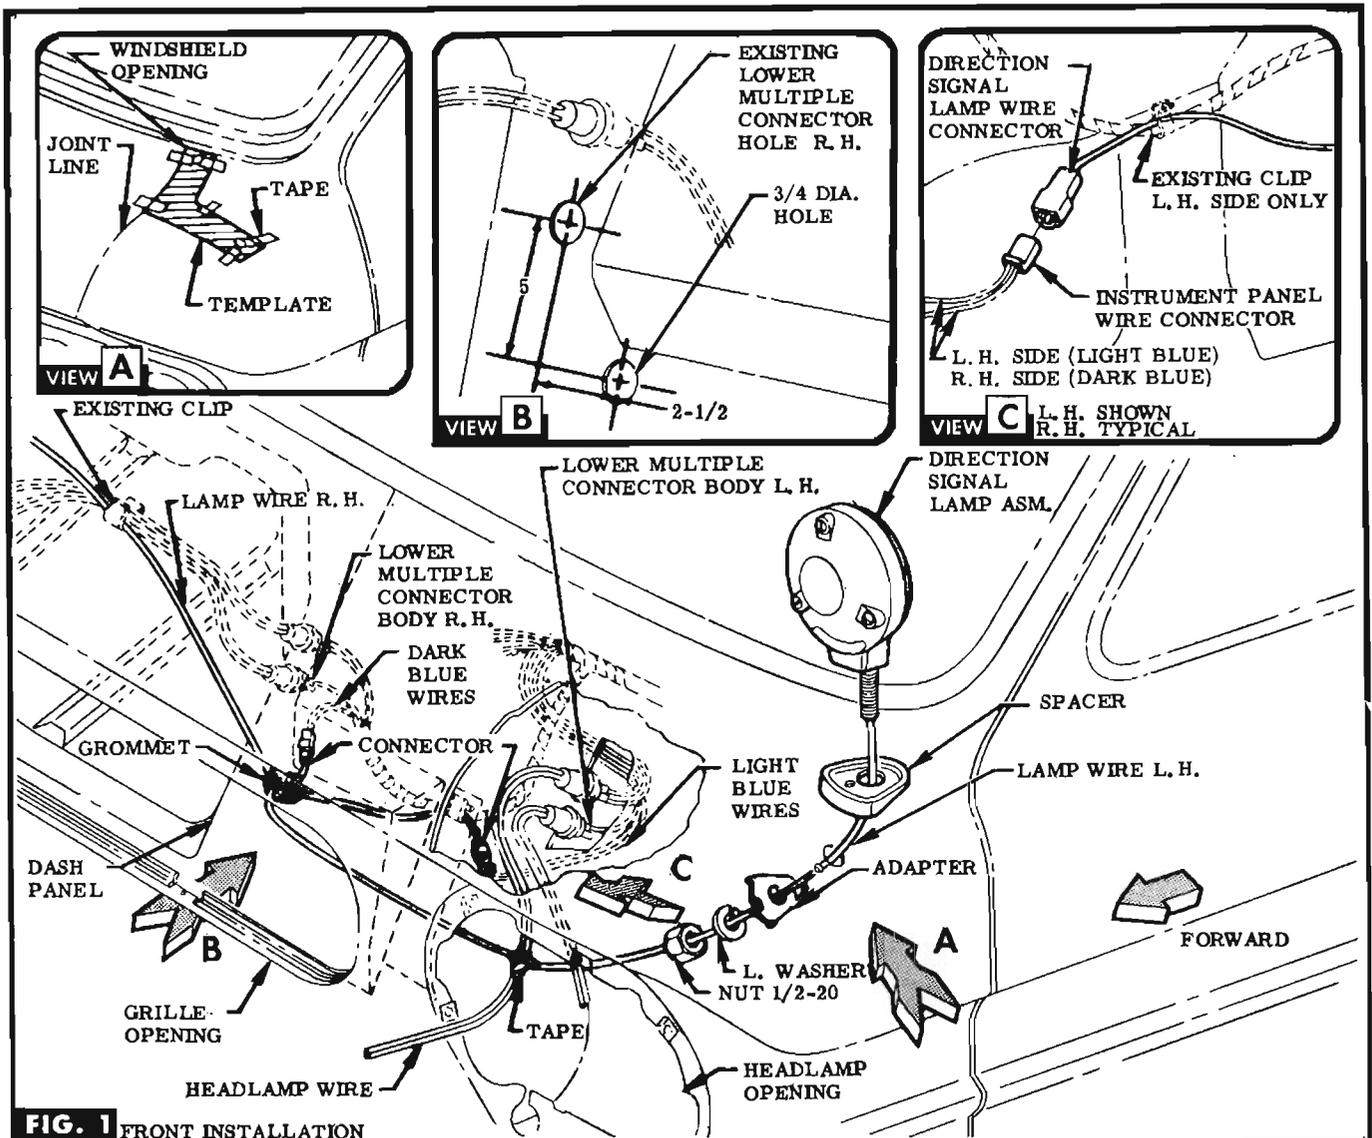
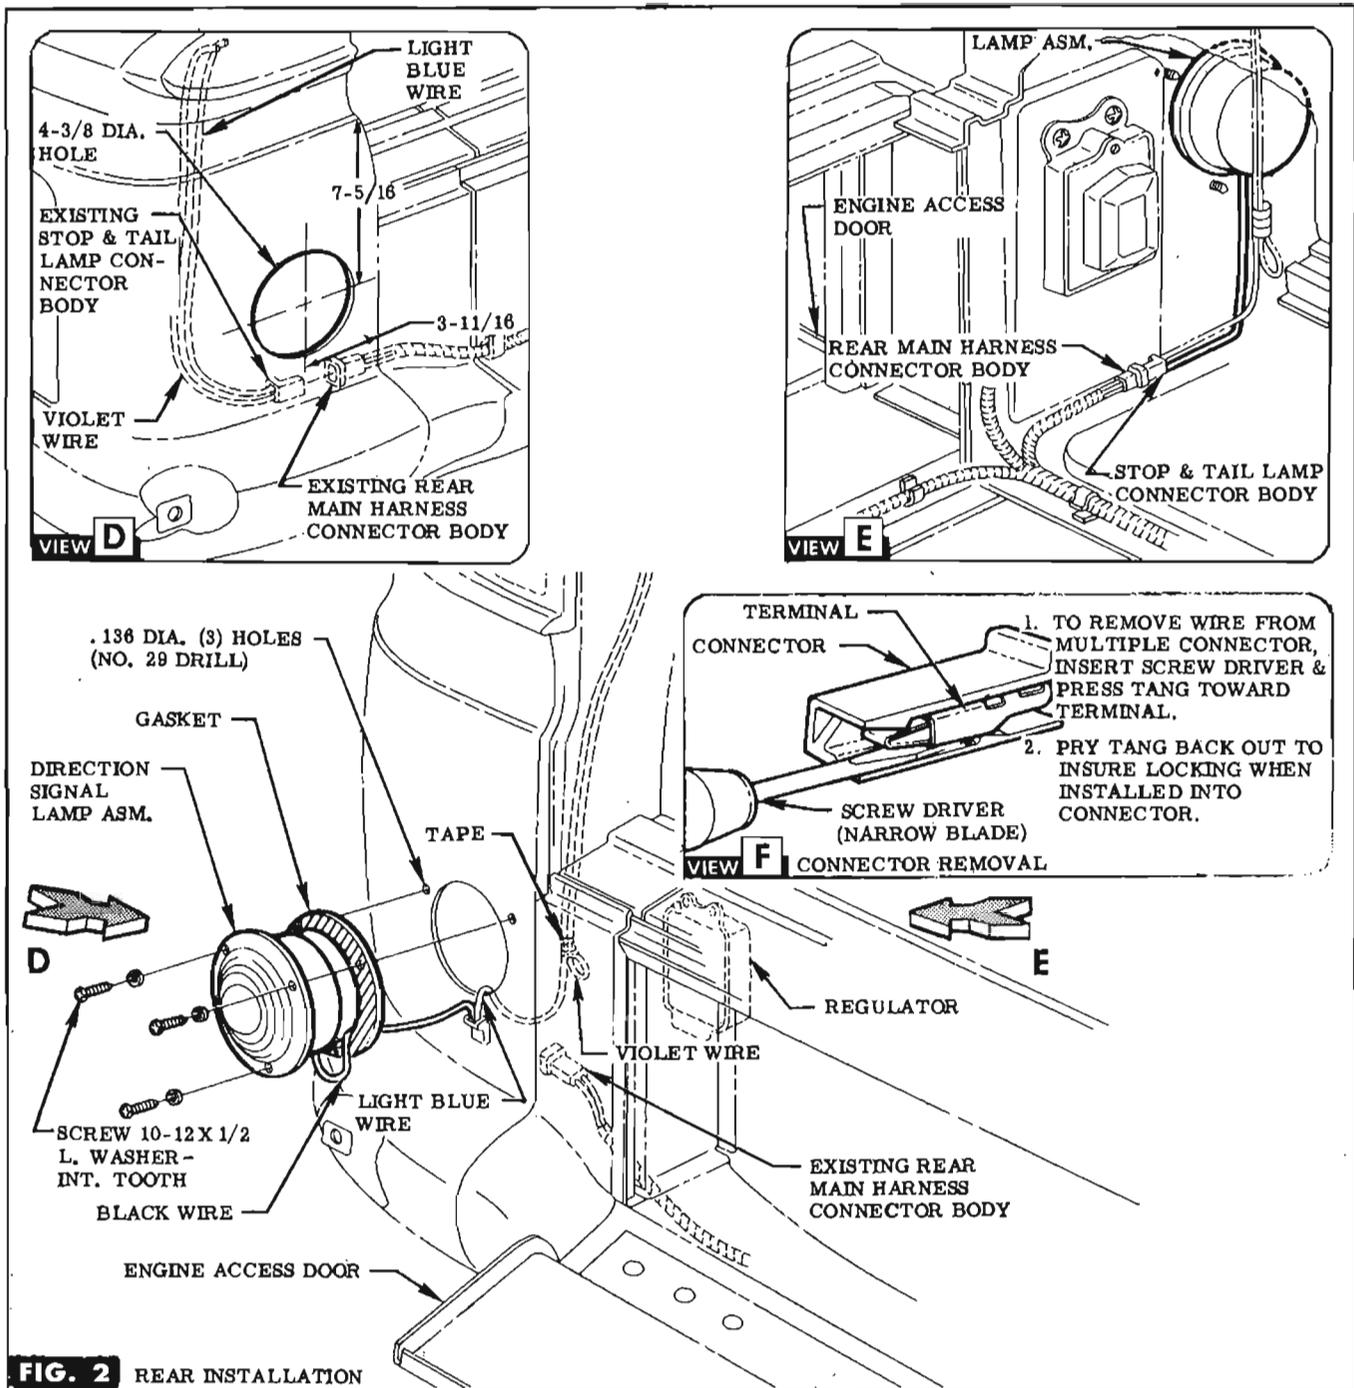

FIG. 1 FRONT INSTALLATION
FIG. 2 REAR INSTALLATION
- STEP 5** ROUTE LAMP WIRE & LAMP ASM. THRU SPACER & LARGE HOLE IN FRONT PANEL BOTH SIDES. SEE FIG. 1.
- STEP 6** ROUTE LAMP WIRE THRU ADAPTER, ATTACHING PARTS & GROMMET PROVIDED. TIGHTEN FRONT LAMPS SECURELY BOTH SIDES. SEE FIG. 1.
WIRE & PLACE GROMMET IN HOLE PREVIOUSLY DRILLED. USE BODY SEALER TO SEAL WATERTIGHT. SEE FIG. 1.
STEP 8 (R. H. INSIDE OF VEHICLE) DISCONNECT LOWER CONNECTOR BODY, REMOVE DARK BLUE WIRE TERMINAL & RECONNECT CONNECTOR BODY. SEE FIG. 1. **NOTE** For Terminal removal, see View "F", Fig. 2.
STEP 9 (L. H. INSIDE OF VEHICLE) DISCONNECT LOWER CONNECTOR BODY, REMOVE LIGHT BLUE WIRE TERMINAL & RECONNECT CONNECTOR BODY. SEE FIG. 1. **NOTE** For Terminal removal, see View "F", Fig. 2.
STEP 10 PLACE PROVIDED CONNECTORS ON BOTH LIGHT & DARK BLUE WIRES, & CONNECT DARK BLUE TO R. H. LAMP & LIGHT BLUE TO L. H. LAMP, PLACE L. H. WIRE IN EXISTING CLIP. SEE VIEW "C", FIG. 1.
STEP 11 TAPE L. H. WIRE TO EXISTING HEADLAMP WIRE & PLACE R. H. WIRE IN EXISTING CLIP. SEE FIG. 1.
STEP 15 REMOVE TERMINAL END OF STOP LAMP WIRE (VIOLET) FROM LOWER HOLE IN CONNECTOR BODY, LOOP & TAPE WIRE TO TAIL LAMP WIRE (LIGHT BLUE). SEE FIG. 2 & VIEW "F".
STEP 16 INSERT TERMINAL END OF DIRECTION SIGNAL LAMP WIRE (BLACK) THRU GASKET & INTO LOWER HOLE IN CONNECTOR BODY. SEE FIG. 2.
STEP 17 PLACE CONNECTOR BODY, WIRES, & DIRECTION SIGNAL LAMP BACK THRU DRILLED HOLE. SEE FIG. 2.
STEP 18 USE LAMP AS TEMPLATE, DRILL HOLES & ATTACH LAMP WITH PARTS PROVIDED. SEE FIG. 2.